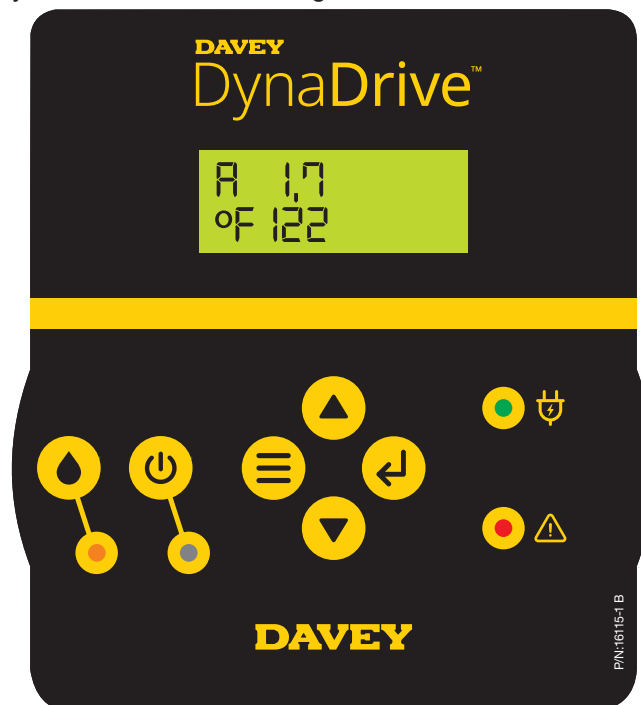

Figure 6.8
- Pressing the **▲ Menu up button** again will display the motor current draw per phase, and the temperature of the DynaDrive controller, see figure 6.8;